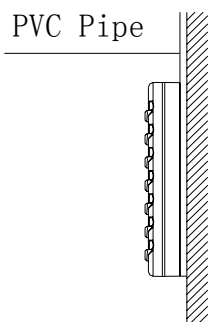
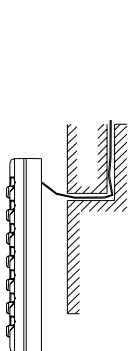

Fig 6 Surface Mounting of Cable
Fig 7 Concealed mounting of Cable
Connect the joints for swing flap motor lead wire (at 2 places) installed on the panel (Refer to Fig.7)
- 2、If the communication line between the wire controller (85×85×16) and the indoor unit is surface-mounted, use 1# PVC pipe and make matching recess in the wall (refer to Figure 6); If concealed installation is adopted, 1# PVC pipe can be used (Refer to Figure 7).